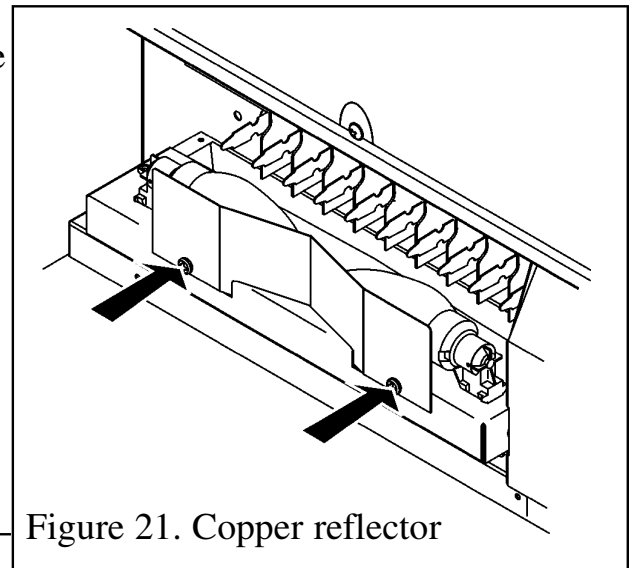

Figure 21. Copper reflector
3. Unscrew and remove the copper reflector plate (See figure 21).